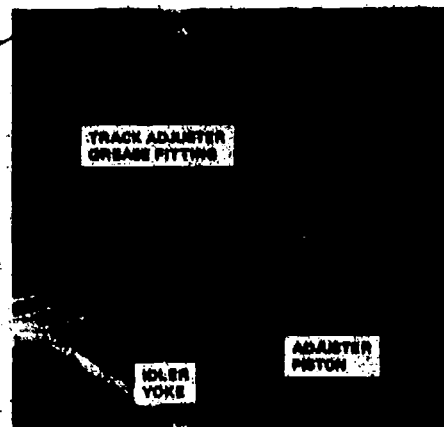

Fig 2-50. Track adjustment.
- (1) Checking slack in track chain. When backing the tractor, if the track chain is too loose, it will tend to climb the sprocket. If the chain is either too tight or too loose, it will cause undue wear on the track links, pins, and bushings, and also on the front idler bearings. Track chain tension can be checked by measuring the sag in the tracks between the track idlers. When this sag is measured, the track should be stretched tight. To remove all slack from the chain, place a wooden block under the foremost track shoe lug and, with the tractor in low gear, engage the engine clutch just enough so that the sprocket drive tightens the track along the ground and around the sprocket. Then apply and lock the brakes and stop the engine. All remaining slack in the tracks can be obtained between the track idlers by having a man stand on the track between them, or by using a sledge hammer, to drive the track down. Lay a straightedge along the track lugs. The track should have a clearance of about 3/4 to 1 in. or 1 to 1 1/2 in. (depending on the model tractor) between the straightedge and the track lug. If the clearance is more or less than specified in the TM, the tension should be adjusted. Greater slack may have to be allowed in certain soils, such as beach sand, which tend to build up on front idlers and sprockets, thus tightening the track chain excessively. When this happens, it lugs the engine down and reduces available pushing power. Too loose a track chain not only causes excessive wear, but may cause the track to leave the suspension system or be thrown. This is particularly true when the tractor is working on a slope.
- (2) Adjusting track chain tension (fig 2-50). The front idler is moved forward by forcing chassis grease into a hydraulic cylinder with a standard lubricator or by pressure of compressed nitrogen gas. Those units that use gas to force the front idler out to tighten the track are loosened by forcing chassis grease in the front part of the cylinder. To tighten the track, the grease is bled off until the correct track tension is obtained. The lubricant and the gas used in these systems are under extreme pressure. When adjusting tracks with these systems, you must be extra careful because the force behind the bleeder plugs and grease fittings is sufficient to blow them out like a bullet. Check the specifications, procedures, and safety precautions in the TM and service manuals before adjusting tracks on the Case MC 1150 and the 82-30M crawler-tractors. Figure 2-50 illustrates how the Case MC 1150 tracks are adjusted.